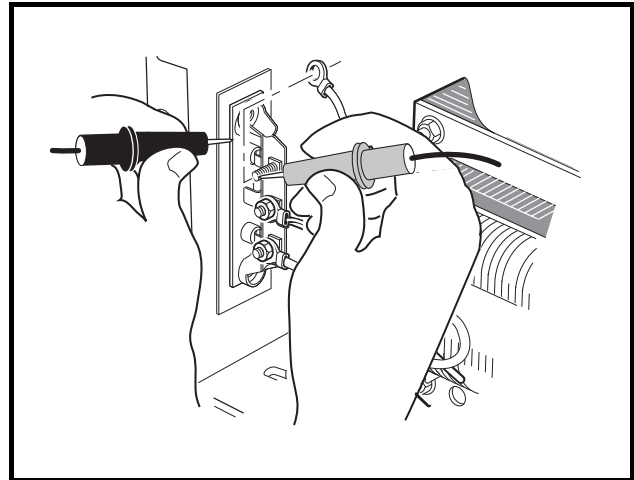

Figure 7-19 Diode Test – Probes Reversed
5. Reverse test probes and check each diode again and note the reading (**Figure 7-19, Page 7-21**). A diode is designed to conduct current in one direction only. If a diode conducts current (shows continuity) in both directions, the entire diode/heatsink assembly must be replaced. If a diode does not conduct current (does not show continuity) in either direction, the entire diode/heatsink assembly must be replaced.